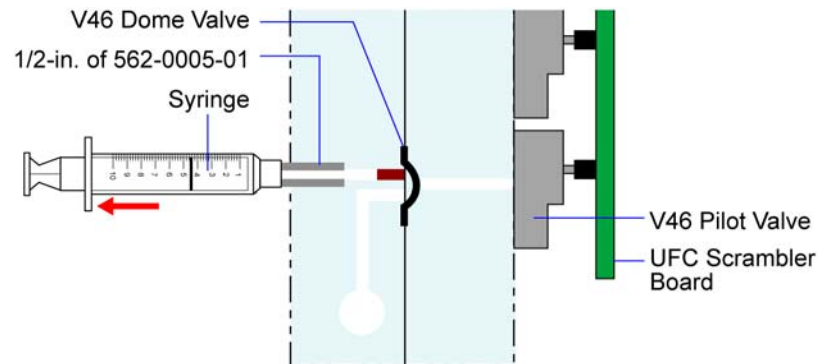

Figure 12. Using syringe with 1/2-in. Tubing
4. Press the syringe and firmly pull on the plunger. See **Figure 12**.